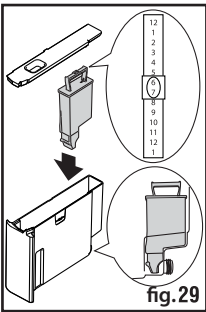

fig.29
- 3 After 5 seconds, the appliance displays "FILL TANK". Extract the water tank (fig. 4), rinse and fill with fresh water without exceeding the MAX line. Replace and push as far as it will go. A water softener filter can be installed in the tank (fig. 29).
- 2 Slide the date indicator pointer (see fig. 29) until the months of use are displayed.
- 4 Insert the filter in the water tank and press it until it touches the bottom of the tank (see fig. 29);
- 3 Slide the pointer of the date indicator (see fig. 29) until the months of use are displayed (the filter lasts about 2 months);